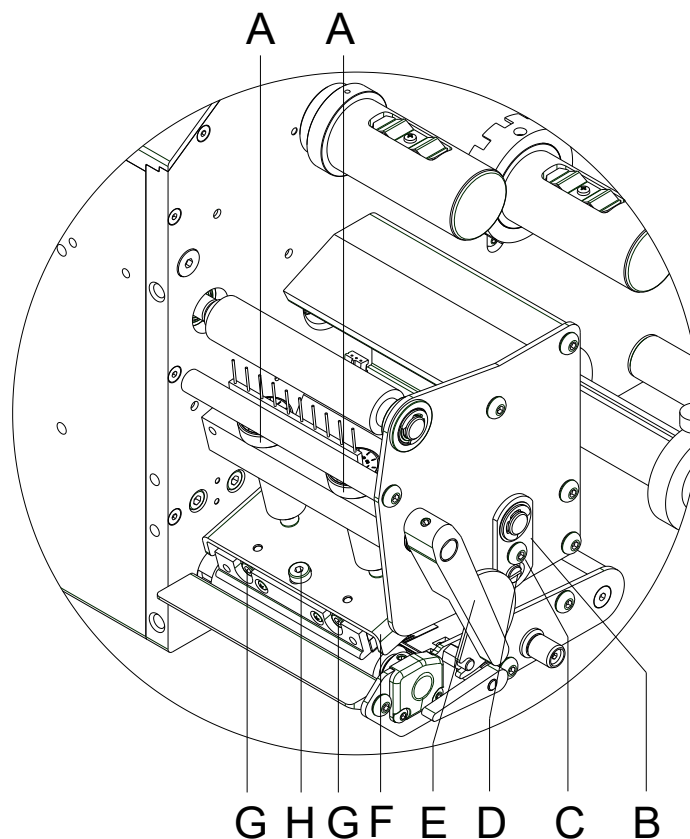

Figure 17
1. Loosen the fixing screw (H, Figure 17) with a hexagon key by approx. $\frac{1}{4}$ rotations.
2. Adjust the parallelism with the adjusting screws (G, Figure 17).
4. Tighten again the fixing screw (H, Figure 17).
1. Loosen the screw (C, Figure 17) with a screwdriver by approx. $\frac{1}{4}$ rotations.
2. In order to achieve a pressure balance, turn the eccentric bolt (D, Figure 17) as long as the printing result comes up to your full expectation.
3. Tighten again the screw (C, Figure 17).
Change the head contact pressure with the screws (A, Figure 17) at the inside and outside of the printhead. Increasing the head contact pressure leads to an improvement of the print image density on the corresponding side and to a shifting of the ribbon feed path in the corresponding direction.
1. Turn the pressure screws (A, Figure 17) to change the pressure of printhead.
2. Turning of pressure screws (A, Figure 17) as far as they will go in clockwise direction results in a pressure increase of 10N in contrast to the factory settings.
3. Turning of pressure screws (A, Figure 17) exactly one rotation from the right stop position counter clockwise results in the factory settings.